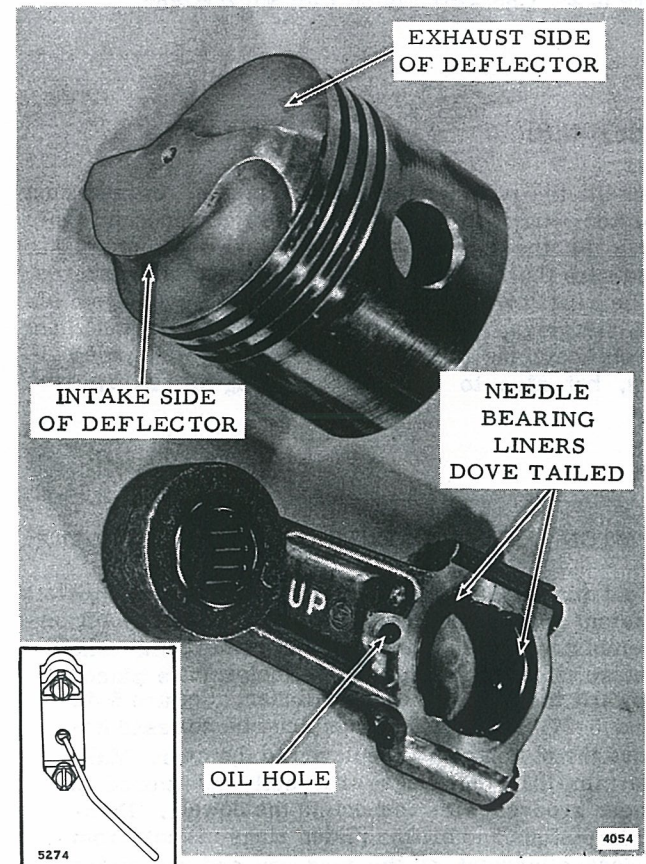

Figure 5-27. Oil Hole in Connecting Rod
When replacing needle bearing inserts, be sure dove tail ends match when the connecting rod and cap match. See figure 5-27.
f. Check whether all the needles are in place in the assembled connecting rod bearing by inserting a small rod or wire through the oil hole in the cap. It will not be possible to touch the crankpin with the wire if the correct number of needles has been used. See Figure 5-27.